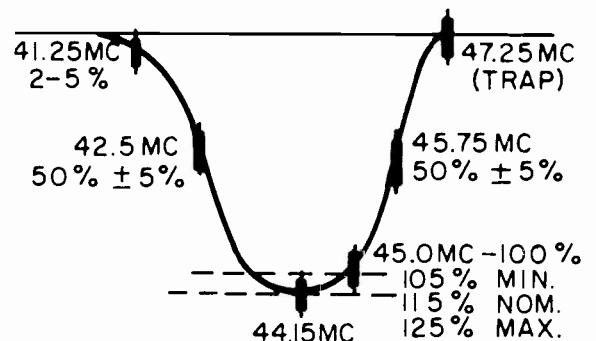

FIG. 5 I-F RESPONSE CURVE
- Align the receiver to produce the response curve in Figure 5. See "Remarks."